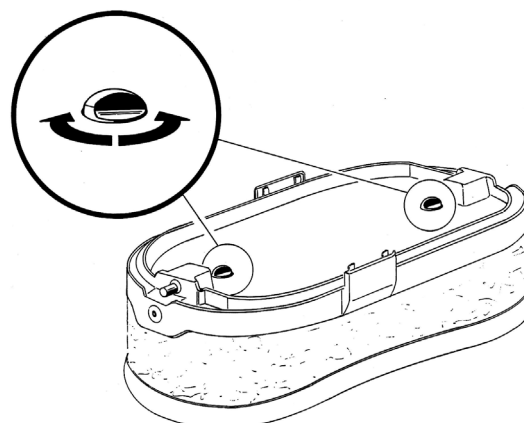

figure 2
**9** It is possible to lock the cover by rotating the two keys located on its lower part. (see figure 2)